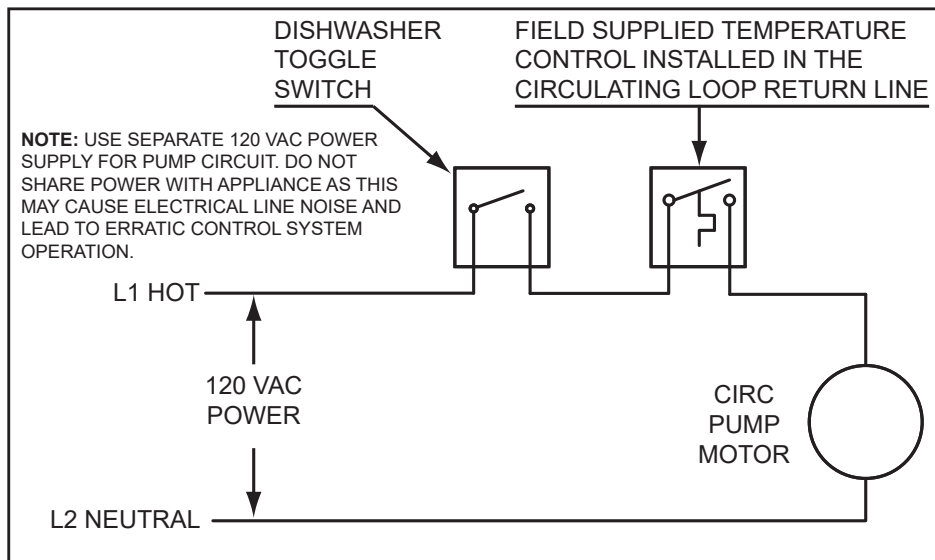

Figure 87. Recirculating Loop with Dish Washer and Toggle Switch
7. If a pump is being installed in a recirculation loop between the water heater and a commercial dishwasher wire according to *Figure 87* (page 101).